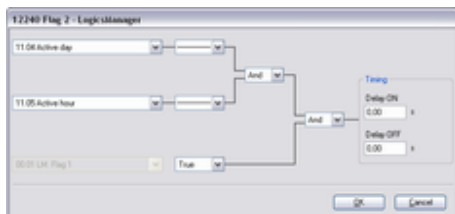

Fig. 220: LogicsManager function "Flag 2"
2. ➤ Configure the LogicsManager function "Flag 2" (parameter 10701 ↵ p. 449/↵ p. 838/↵ p. 843) as shown in (Fig. 220).